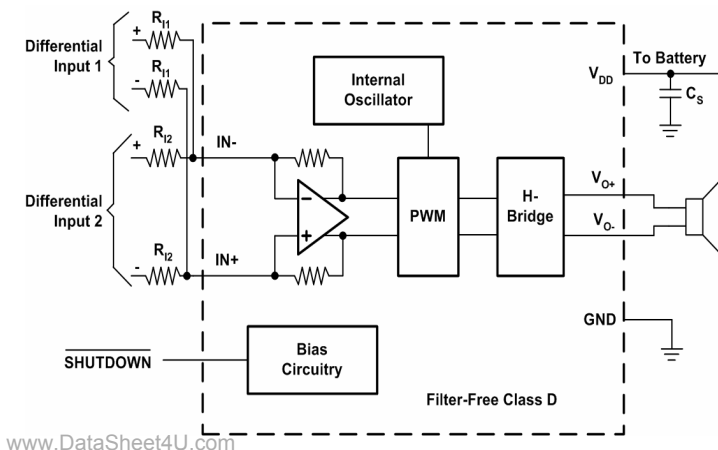

Figure 26. Application Schematic With EUA2005 Summing Two Differential Inputs
Two extra resistors are needed for summing differential signals (a total of 5 components). The gain for each input source can be set independently (see equations (4) and (5), and Figure 26).